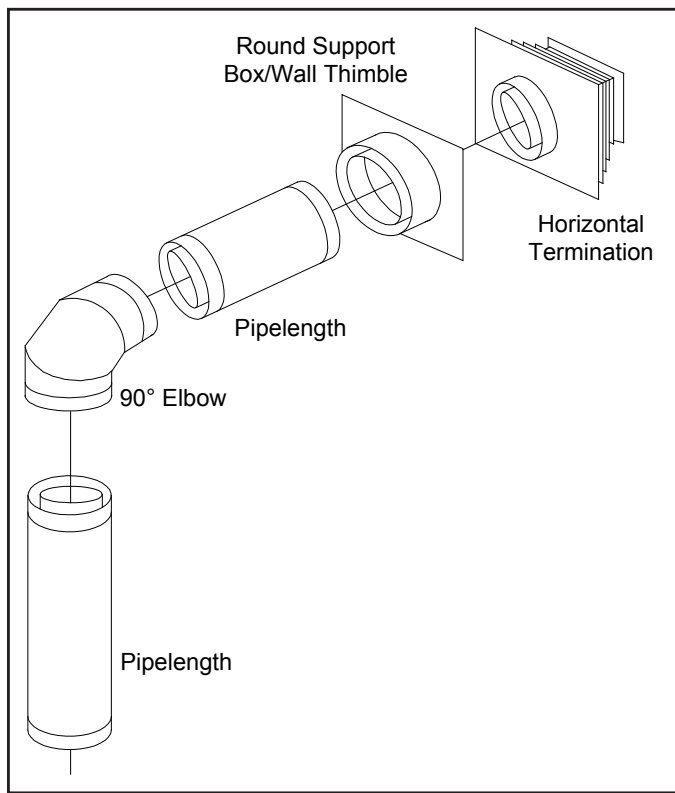

Figure 13: Common Horizontal Installation.
There are three (3) basic types of Direct Vent System installations. The three (3) types of installations are shown in Figures 13 through 15.